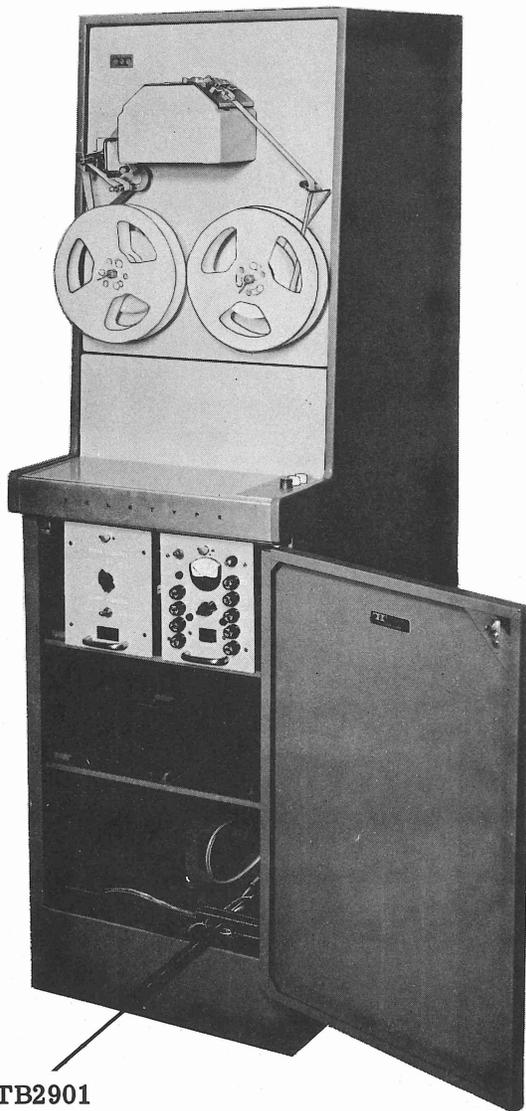

Figure 12 - High Speed Tape Sender
7.01 After unpacking the cabinet, remove the four spacer blocks between the channels and motor frame, the block under the motor mounting vibration mounts, the block from the under side of the power supply transformer, and the three blocks from the rear sides and shelf of the cabinet. The High Speed Sender, Receiver and Intercept Receiver Cabinet should be compared with Figures 12 and 13 respectively for proper module placement.